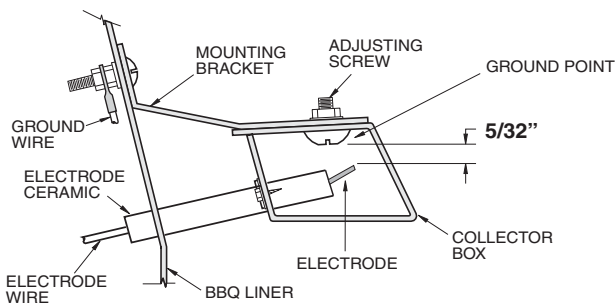

Figure 2
7. Before reassembling the backburner and face, check the electrode gap for barbecue and backburner (Figure 2 and 3). Also, before fully reassembling, plug in all wires and check for spark at both electrodes. A small mirror will be helpful for checking the barbecue electrode spark.